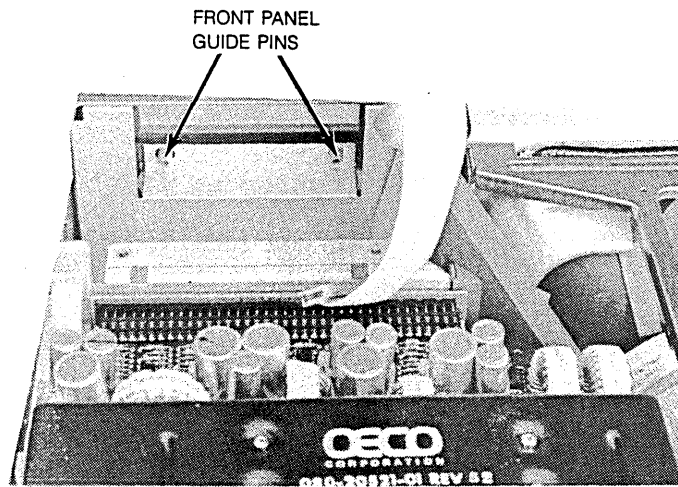

Figure 6-49. Front Disc Drive Replacement
- f. Reinstall the new unit through the front panel. Note the two front panel guide pins (see figure 6-49).